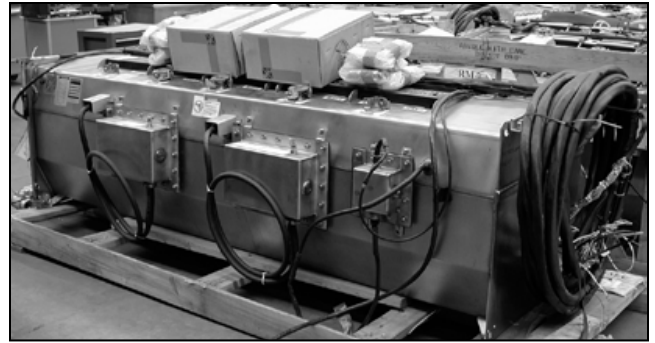

Figure 116. The main cables for the switchgear.
- STEP 1.** Uncoil the main cables that will be routed to the low-voltage enclosure. These cables have low-voltage connectors on their ends. See Figure 116.